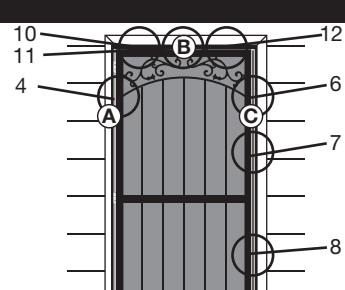

Fig. 15
Fig. 15 - Remove screws on pre-hang brackets and remove brackets. Through the remaining holes in the Z-bar jambs (A & C) and top/head jamb (B), drill a 1/8" hole approximately 1/2" into the doorway trim. Insert mounting screws (L) into holes (4-12) and tighten.